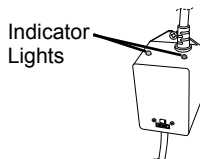

Figure 7
18. Reinstall the black lamp boot (8) back over the quartz seal compression nut (7).
19. Reinstall the enclosure cover (10) with gasket (9) and secure with the screws.
22. Once power is activated you can check the ballast (12), Figure 7, to see if the CLEARRAY System is functioning. A solid green light indicates that the CLEARRAY System is being provided power and should always be on. A solid red light indicates that UV lamp is activated.